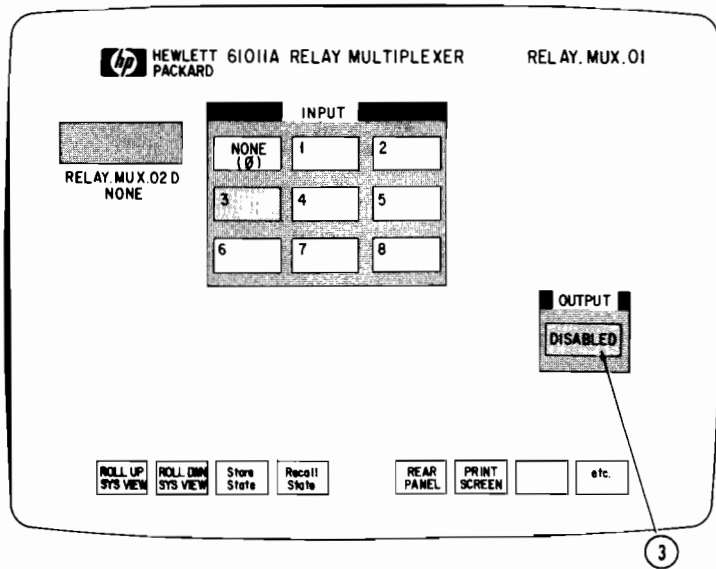

Figure 2-3. Enable the Output
Step 3 - When you point to and select the input 3 field, its background turns bright, and the background of NONE turns dark (see Figure 2-3). Because the output field indicates DISABLED, the selection process did not close any relay contacts on your instrument. The output must be enabled before the relay contacts of input 3 can close. Point to and select DISABLED to enable the output. (The output field toggles between ENABLED and DISABLED.)